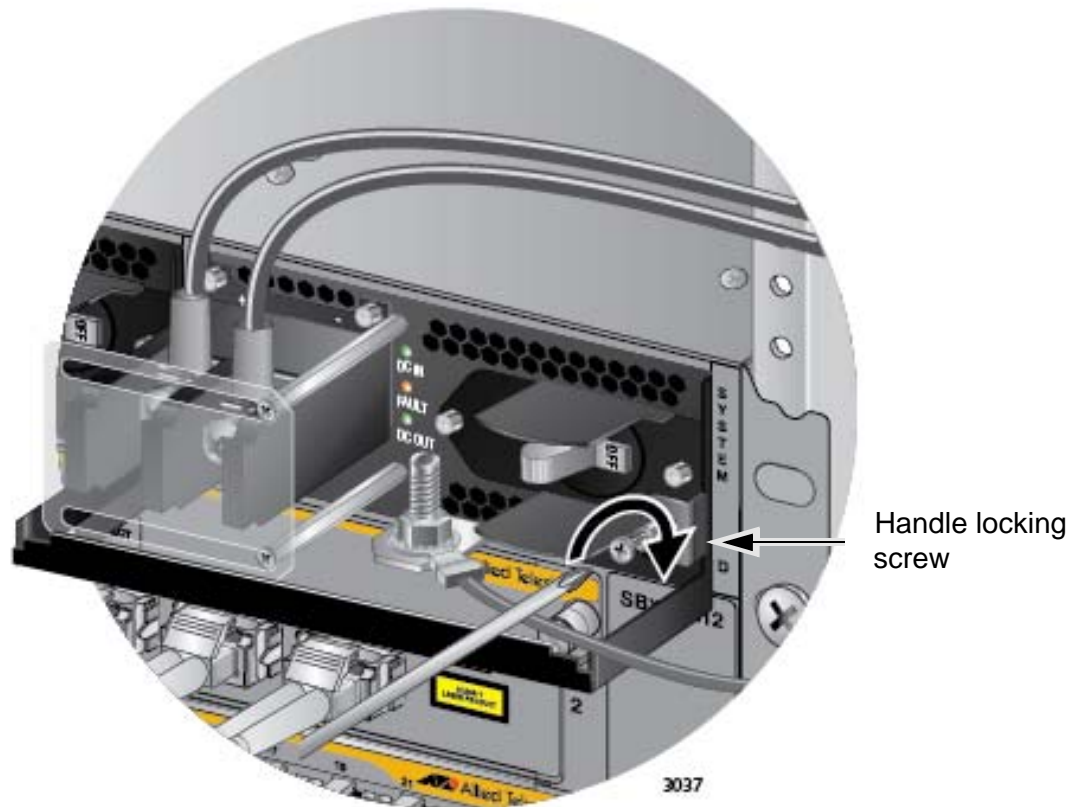

Figure 113. Tightening the Handle Locking Screw
9. With a #2 Phillips-head screwdriver, tighten the handle locking screw to secure the power supply to the chassis. See Figure 113 on page 175.
7. With a #2 Phillips-head screwdriver, tighten the handle locking screw to secure the power supply to the chassis. See Figure 113 on page 175.